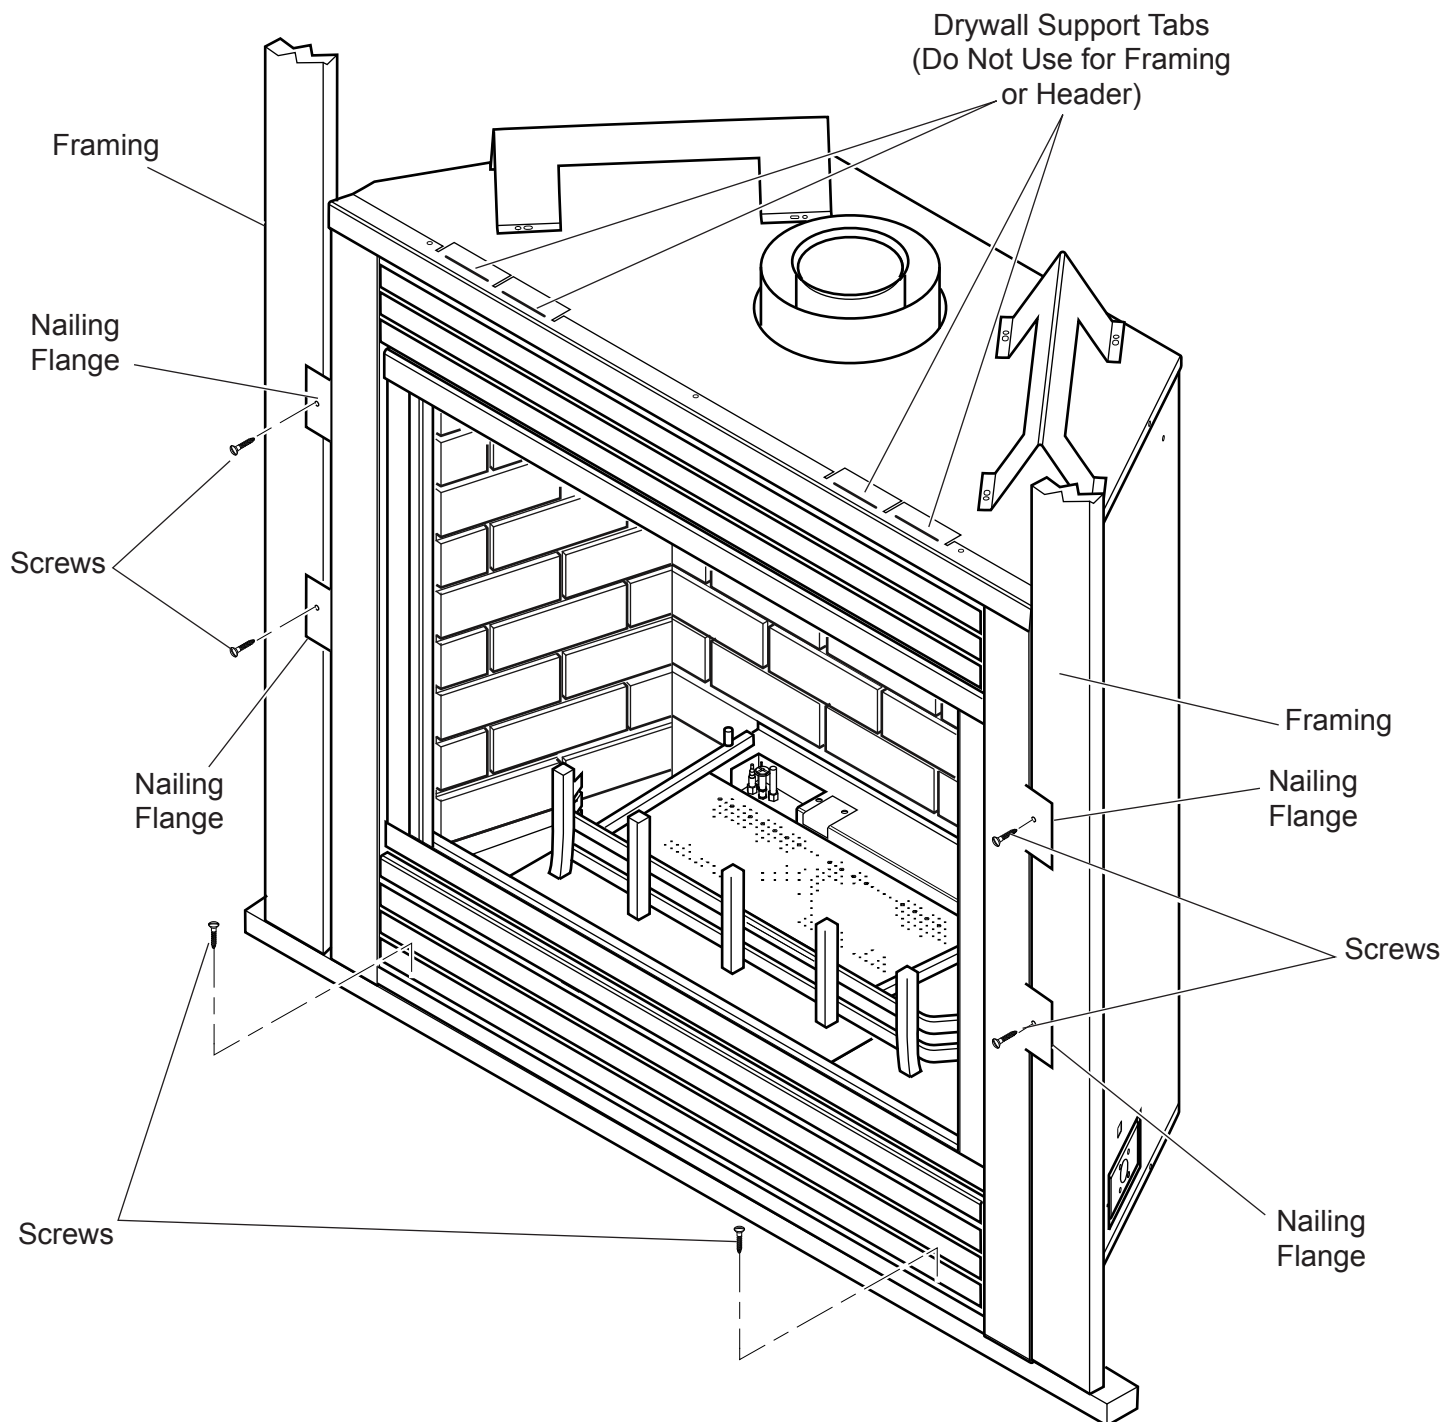

Figure 8 - Securing Fireplace to Floor and Framing Studs (CDVT36 shown)
The fireplace must be secured to the floor and/or to framing studs as shown in *Figure 8*. Use two (2) wood screws or masonry/ concrete screws to secure fireplace to the floor. Use four (4) screws to attach fireplace to framing. The side nailing flanges are 1/2" or 5/8" to accommodate different wall thickness.